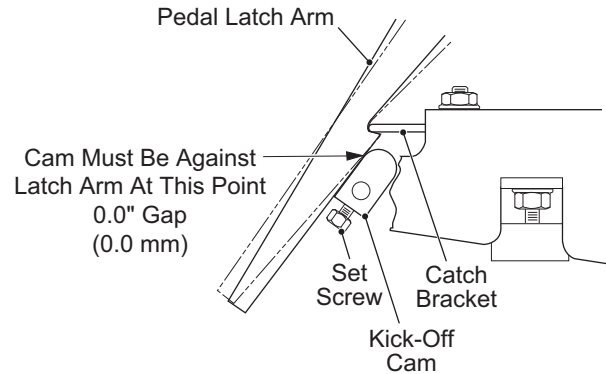

Figure 12 Kick-Off Cam Inspection
Replace if showing signs of wear or damage (Figure 12).
Look for wear and for correct adjustment. With the parking brake engaged and fully latched, there must be no gap between the top of the cam and the latch arm. Adjust the kick-off cam (3) if required (Figure 12). It is very important that the correct setscrews are used to hold the kick-off cam to the pivot rod. Use of longer screws prevents correct adjustment of pedal bumper (pedal travel) and may prevent the brakes from adjusting properly.